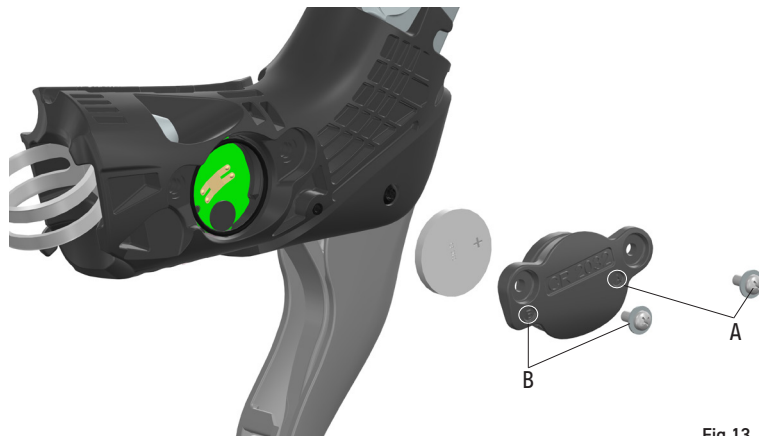

Fig.13
- Use a Phillips screwdriver to unscrew and remove the screw and washer in position A (Fig. 13), then proceed to do the same for the screw and washer in position B (Fig. 13).
- To remove the battery cover, use the protrusion on the cover near screw B (Fig. 13).
- Remove the battery and insert a CR2032 battery, making sure the side with the "+" symbol is facing the cover (Fig.13).
- Put the cover back on and tighten the two screws using a Phillips screwdriver (Fig.13).